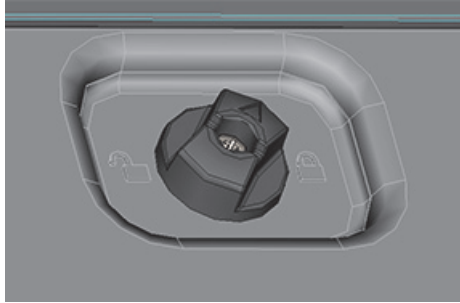

Figure 4-2 Cover thumb screw
3. Loosen the two thumb screws securing the battery compartment cover (Figure 4-2 on page 46).